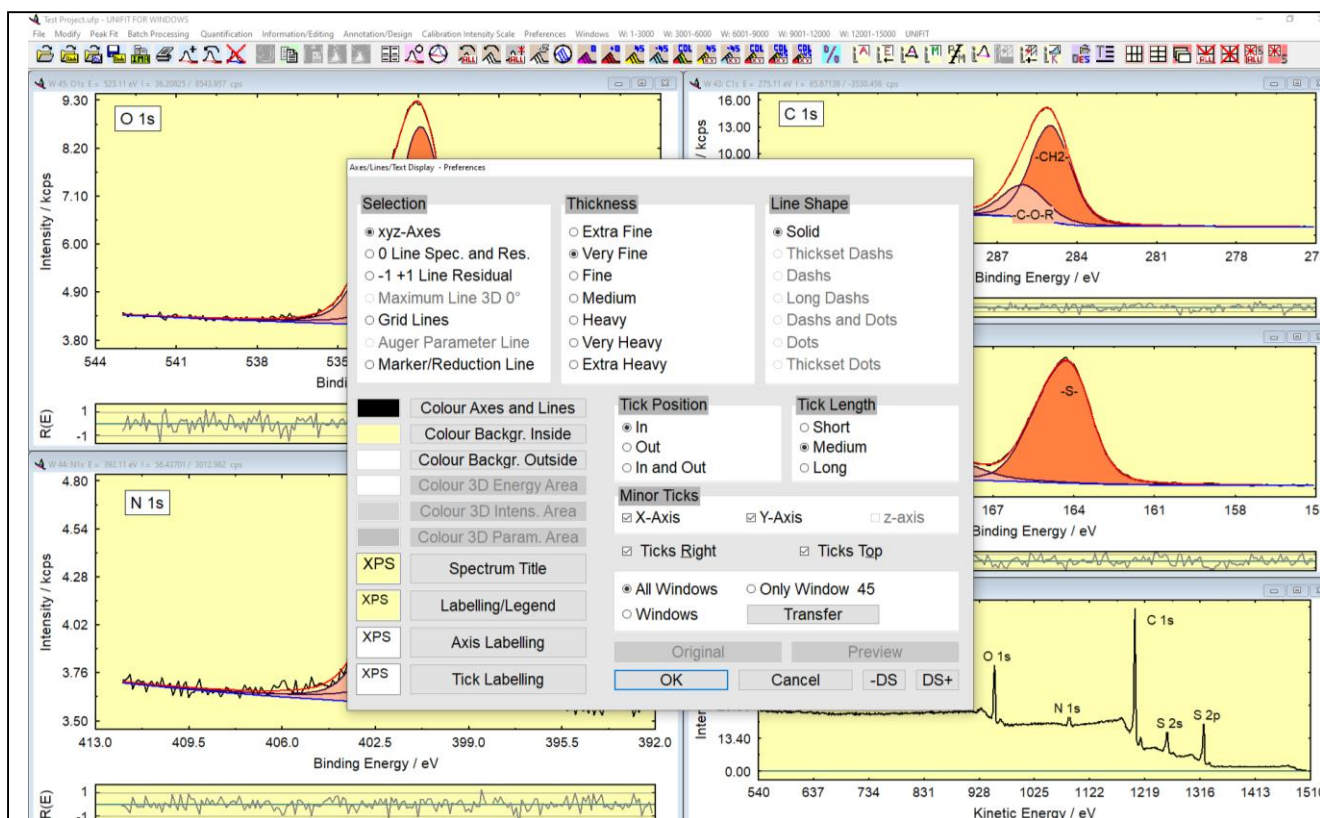

Fig. 3 Screen shot: Dialogue for setting of the preferences of the shape, thickness and colour of all displayed axes, lines and characters
- b) Axis/Lines/Text (see Fig. 3)